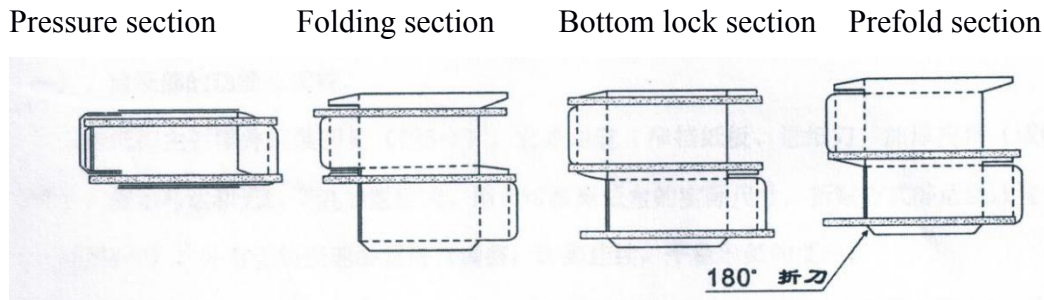

Figure 4-8
1. Placement of cardboard in other locations(like figure 4-8)